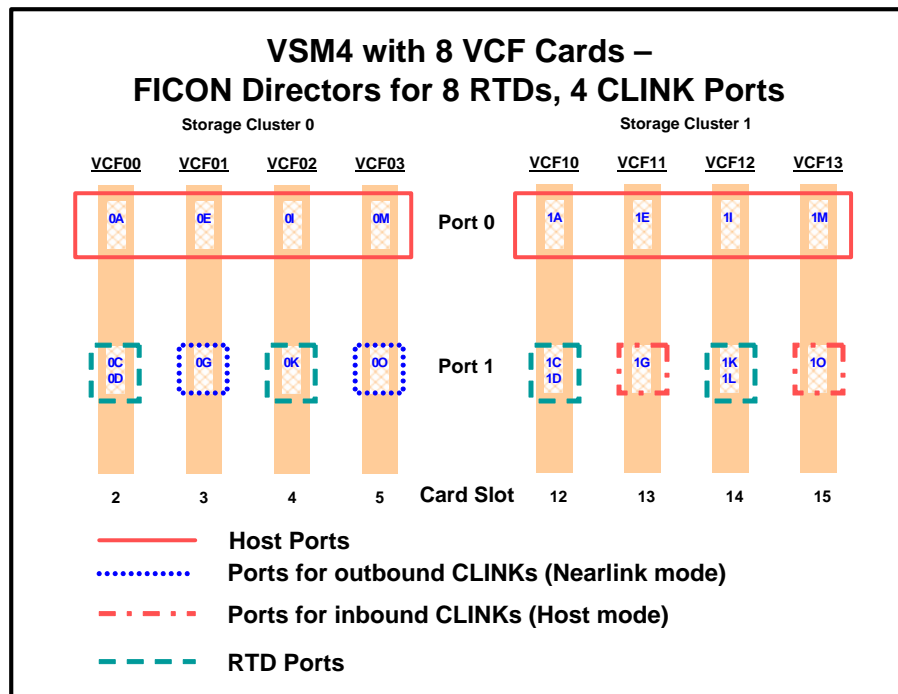

FIGURE 4-4 VSM4 with 8 VCF Cards, 8 Host Ports, FICON Directors for 8 RTDs, 4 CLINK Ports
Now it's time to take a look at the hardware for this Clustered configuration. FIGURE 4-4 shows CONFIG channel interface identifiers for a VSM4 with 8 VCF cards. In this configuration, we've allocated:
- 7 4 ports for CLINK connections to form a Uni-Directional VTSS Cluster, and 8 ports to host connections. To form the clustered VTSS, we'll have two VSM4s (VTSS1 and VTSS2) configured identically as shown in FIGURE 4-4.